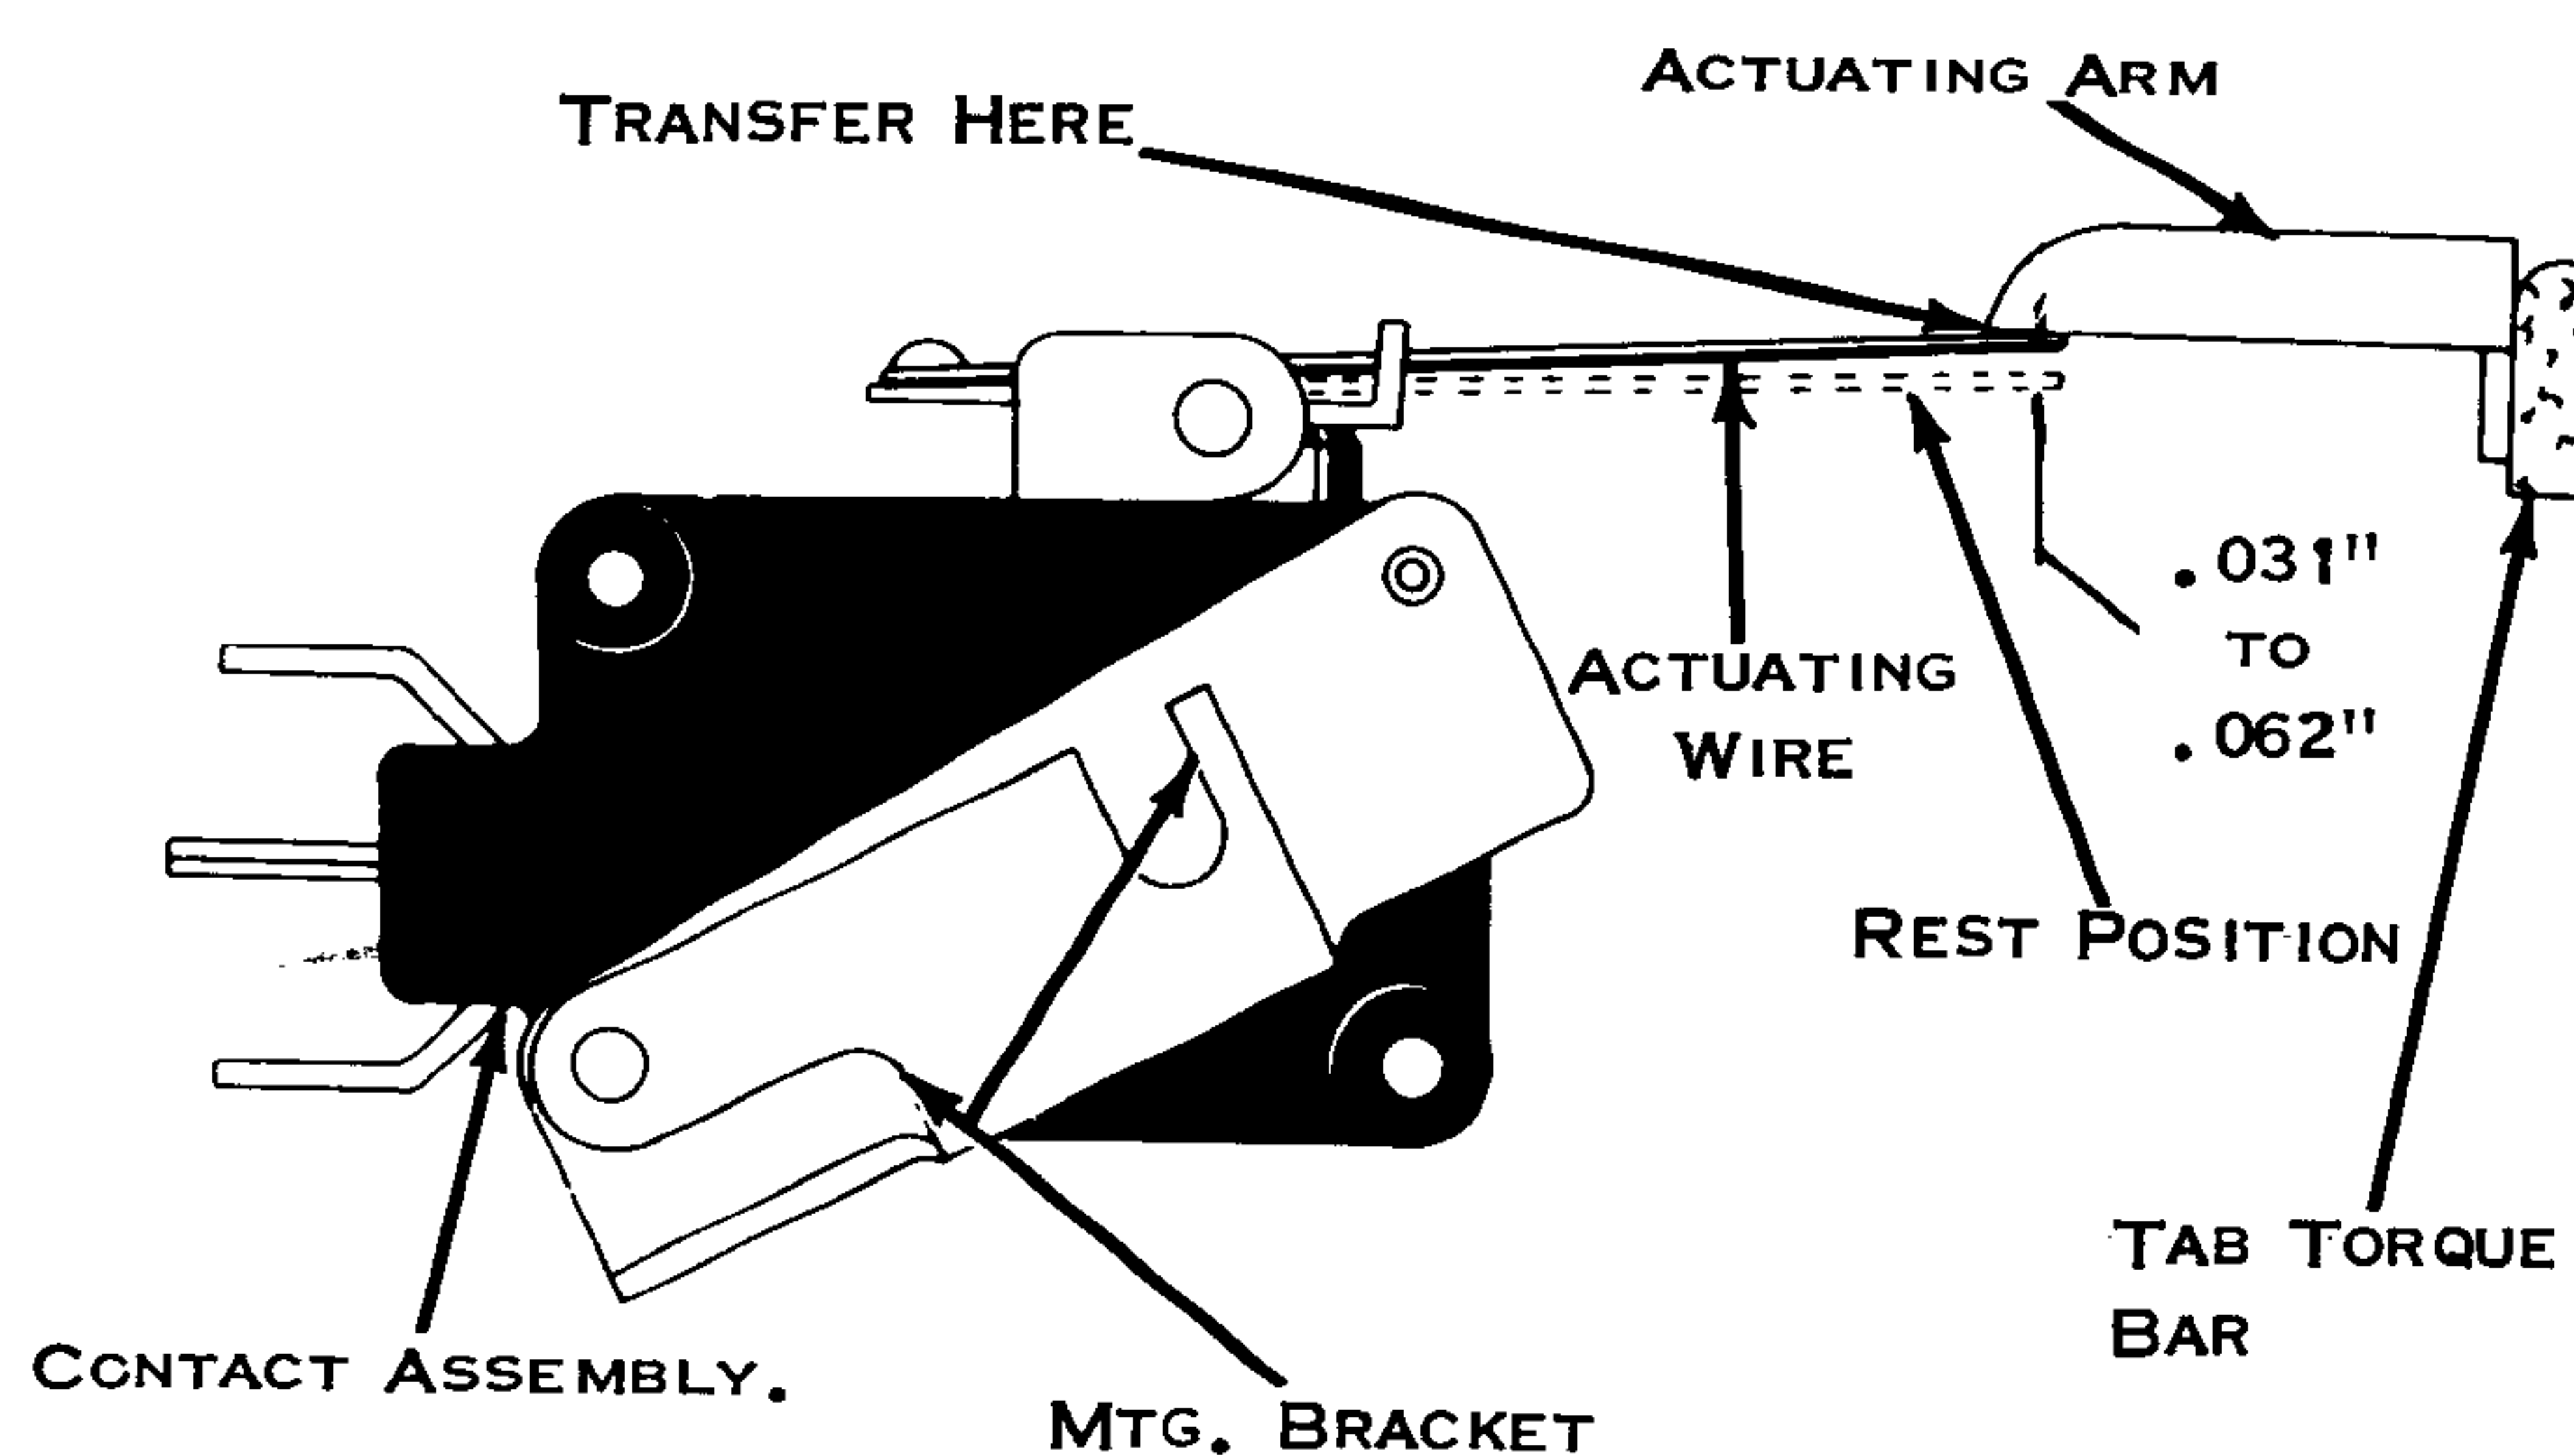

Figure 176. Interlock Contact
- c. As the tab torque bar restores, position the mounting bracket (up or down) so that the contact actuating wire travels .031" to .062" after the contact transfers (Fig. 176).